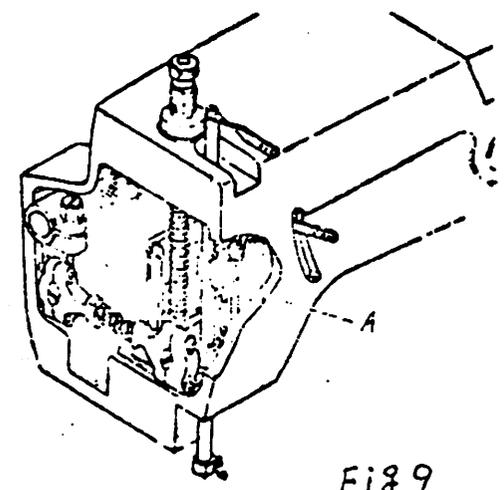

Fig 9
1. Rotating the pulley, after putting the needle bar to upper end position, and then loosen the needle bar holder screw A in Fig. 9.
3. As to the height of needle bar, referring to the Table 2., please adjust the height from the surface of needle plate to the top end of left needle when the needle bar is at its upper end position as indicated in Fig. 9.